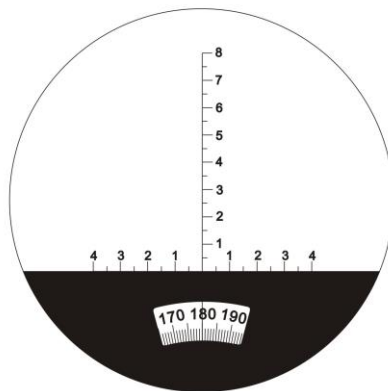

Fig. 3
3.1.3 Reticle Scale (See Fig. 3)
A mil's reticle (fig.3) that has horizontal or vertical scale can measure the View angle of an object.